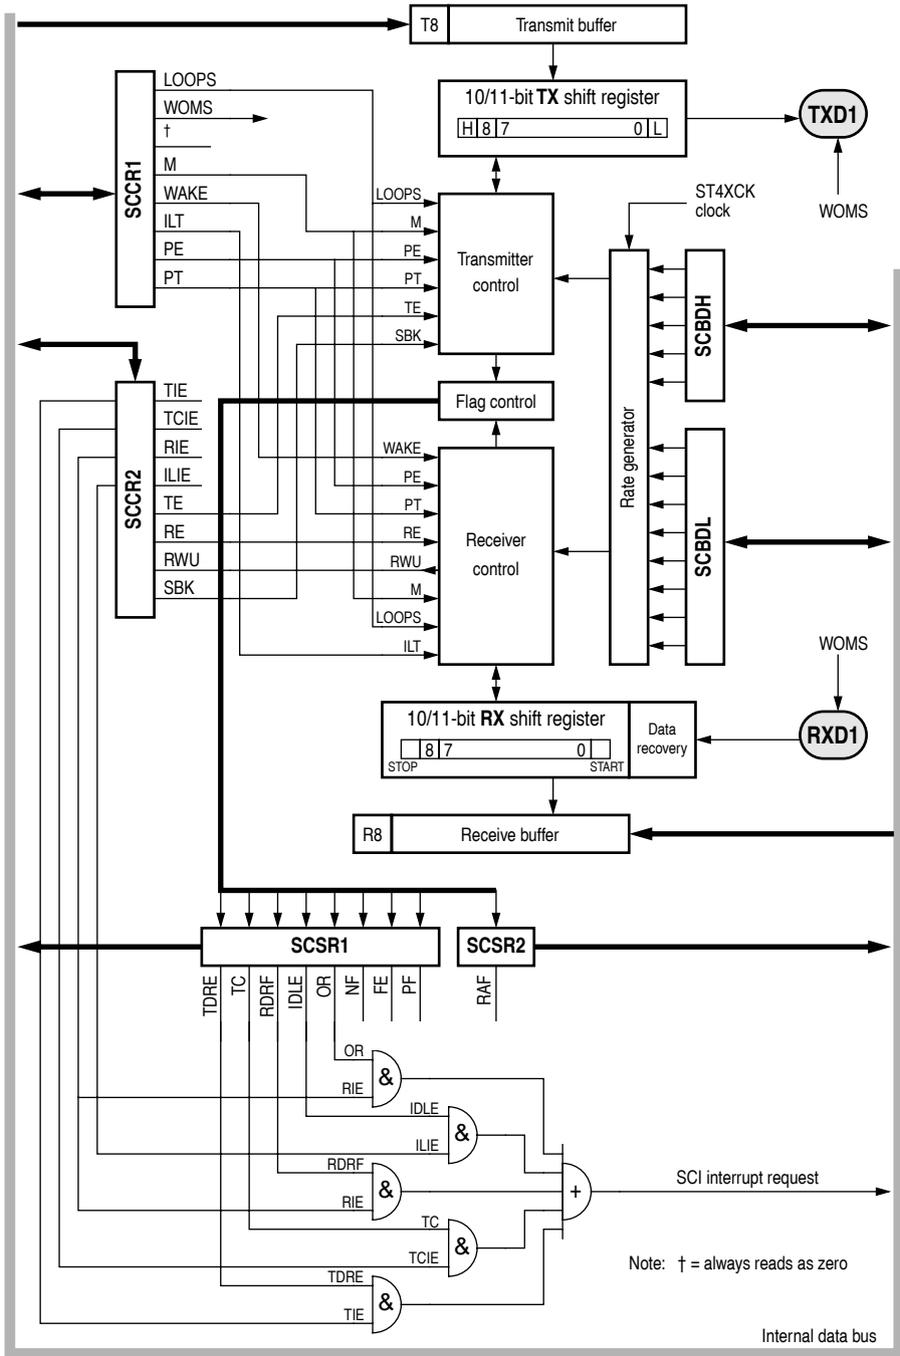

Figure 5-2 SCI1 block diagram
The SCI transmitter includes a parallel data register (SCDRH/SCDRL) and a serial shift register. The contents of the shift register can only be written through the serial data registers. This double buffered operation allows a character to be shifted out serially while another character is waiting in the serial data registers to be transferred into the shift register. The output of the shift register is applied to TXD as long as transmission is in progress or the transmit enable (TE) bit of serial communication control register 2 (SCCR2) is set. The block diagram, Figure 5-2, shows the transmit serial shift register and the buffer logic at the top of the figure.